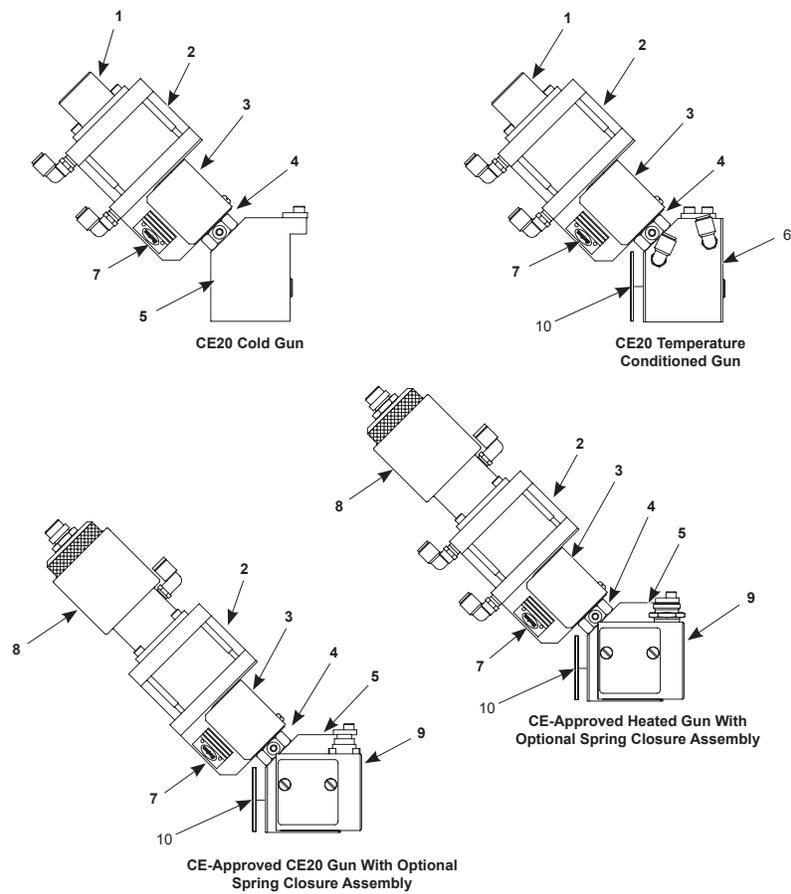

Figure 2 CE 20 Guns
See Figure 2. Each CE20 gun has the same bonnet (4), yoke (7) and air cylinder (2). The air cylinders on CE-Approved models do not have NPT fittings. The armature cover (1) can be replaced with an optional spring closure assembly (8). Guns are shipped with a guard (3) to protect from moving parts.